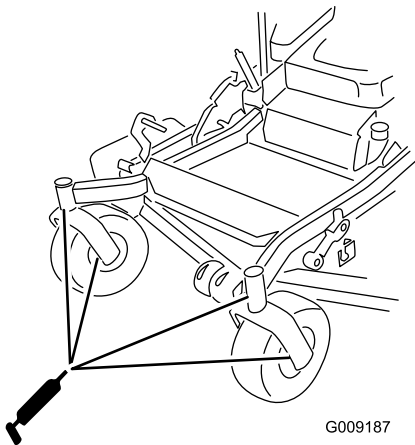

Figure 48
- Install the hex plug and dust cap (Figure 48).